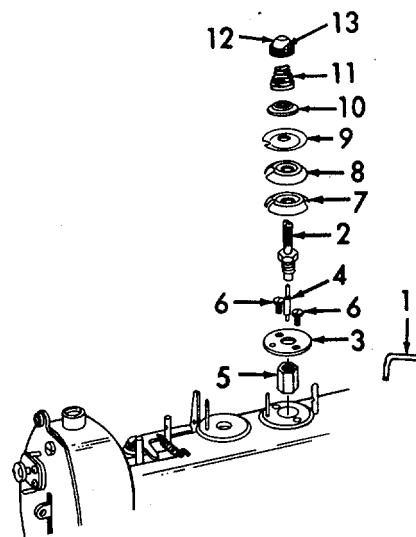

Figure 6-120. Rear Thread Tensioner and Thread Guide, Installation.
- (1) Inspect hardware for damage.
- (2) Inspect for broken spring.
- (3) Inspect for damaged tension discs.
- (4) Inspect for damaged pins.
- (5) Inspect for damaged plate.
- (6) Inspect for damaged lever.
e. Installation (Refer to Figures 6-120 through 6-122).
- (1) Refer to Figure 6-120. Install thread guide (1).
- (2) Install to stud (2): plate (3), pin (4), and nut (5).
- (3) Install plate (3) and two screws (6).
- (4) Install lower and upper tension discs (7 and 8).
- (5) Install felt pad (9) and keeper (10).
- (6) Install spring (11).
- (7) Install knurled nut (12) and tighten setscrew (13).